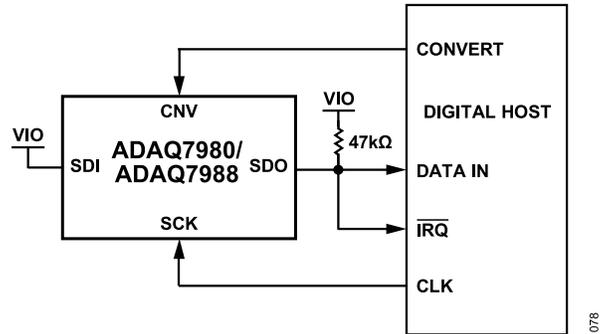
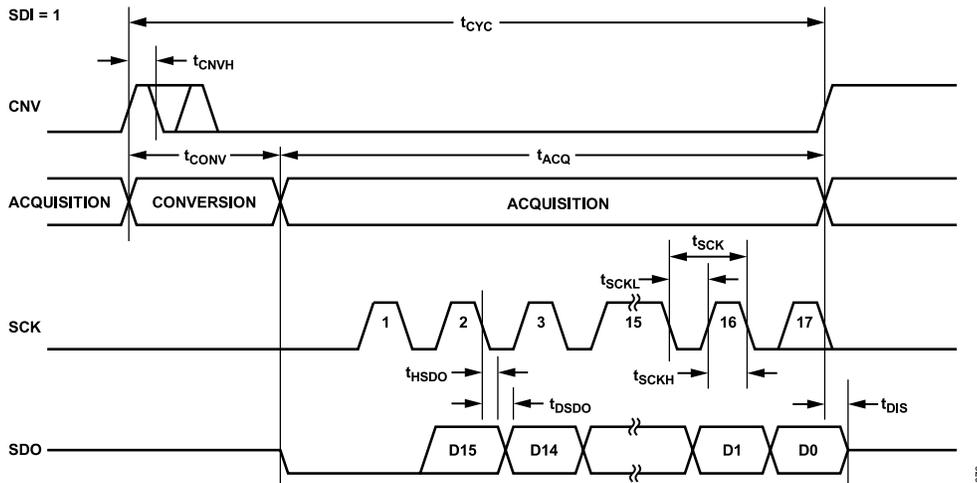
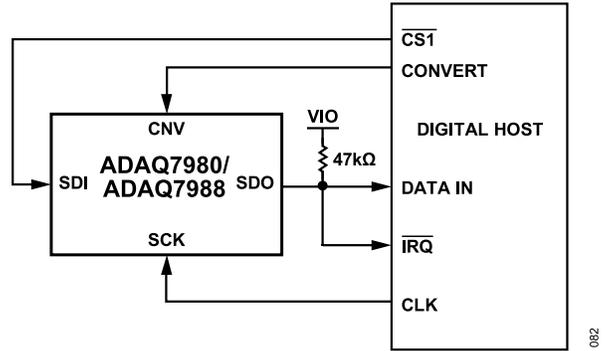
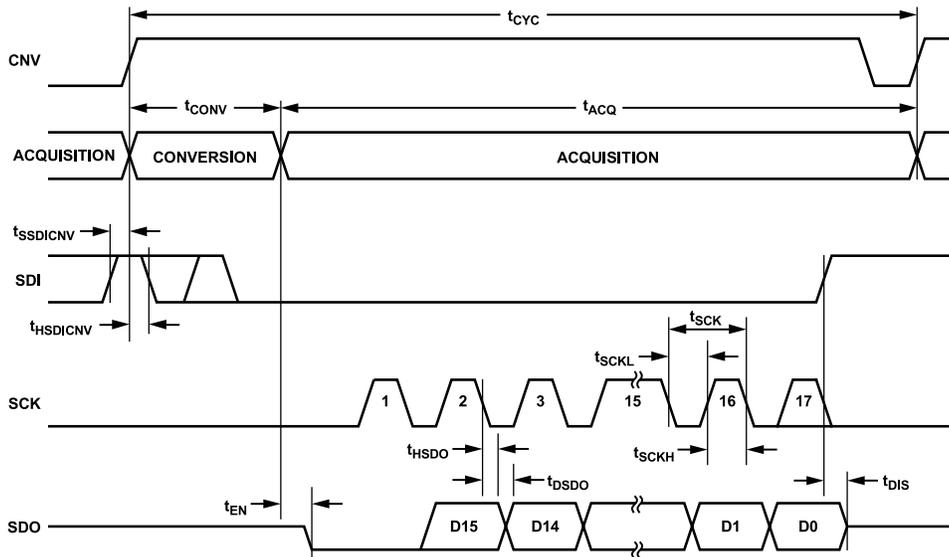

Figure 73. 3-Wire  $\overline{CS}$  Mode with the Busy Indicator Connection Diagram (SDI = 1, High)
Figure 74. 3-Wire  $\overline{CS}$  Mode with the Busy Indicator Serial Interface Timing (SDI = 1, High)
Figure 77. 4-Wire  $\overline{CS}$  Mode with the Busy Indicator Connection Diagram
Figure 78. 4-Wire  $\overline{CS}$  Mode with the Busy Indicator Serial Interface Timing
- ▶ In  $\overline{CS}$  mode if CNV or SDI is low when the ADC conversion ends (see Figure 74 and Figure 78).
Figure 73 shows the connection diagram, and Figure 74 shows the corresponding timing.
Figure 77 shows the connection diagram, and Figure 78 shows the corresponding timing.